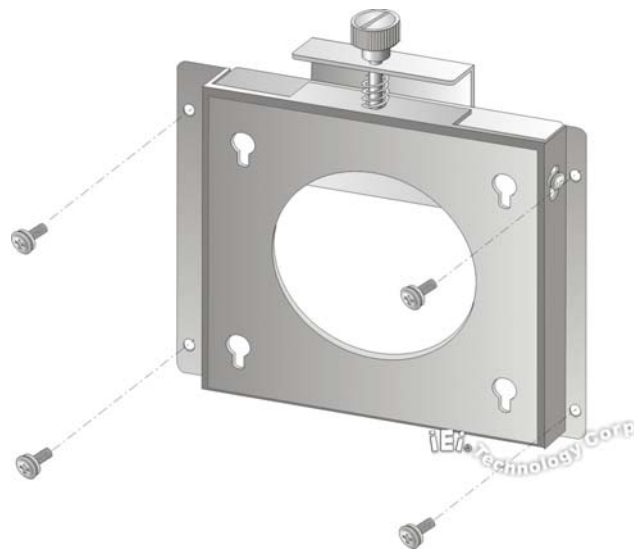

Figure 3-9: Wall-mounting Bracket
- Step 5:** Secure the mounting-bracket to the wall by inserting the retention screws into the four pilot holes and tightening them (**Figure 3-9**).